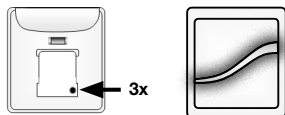

Fig. 1
A. Press and release the program button on the back of the remote three times in rapid succession (3 taps). The LED will flash, alternating amber to identify exclusion mode. (Fig. 1)